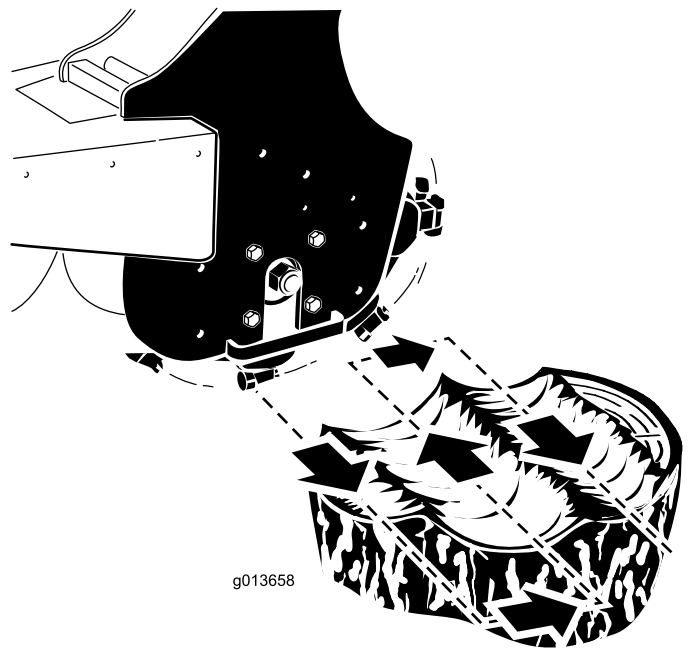

Figure 12
4. Position the grinder on the left side and behind the stump (Figure 12).
5. Swing the grinder toward you using the attachment-tilt lever, grinding at a depth of 0.5 to 5 cm (1/4 to 2 inches), depending on the hardness of the wood (Figure 12).
6. Swing the grinder back out (Figure 12), lower it 0.5 to 5 cm (1/4 to 2 inches), and repeat steps 4 through 6 until you have ground down a few inches.
8. Move the grinder to the right (Figure 12).